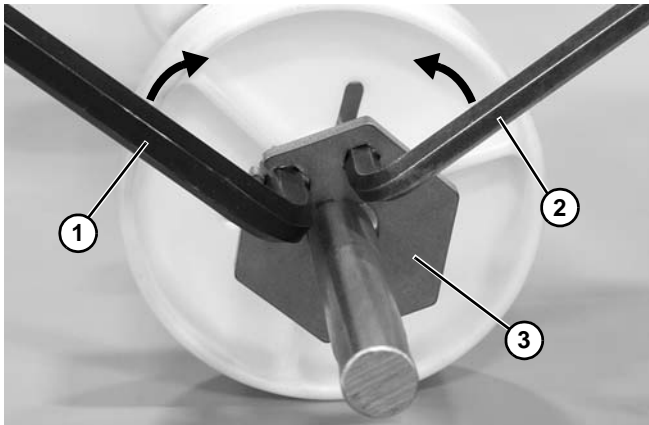

Figure 131
5. Insert an 8 mm (**Figure 131, item 1**) and 6 mm (**Figure 131, item 2**) hex wrench into the retainer plate.
6. Move wrenches toward each other to unlock the retainer plate (**Figure 131, item 3**) and remove from the shaft.